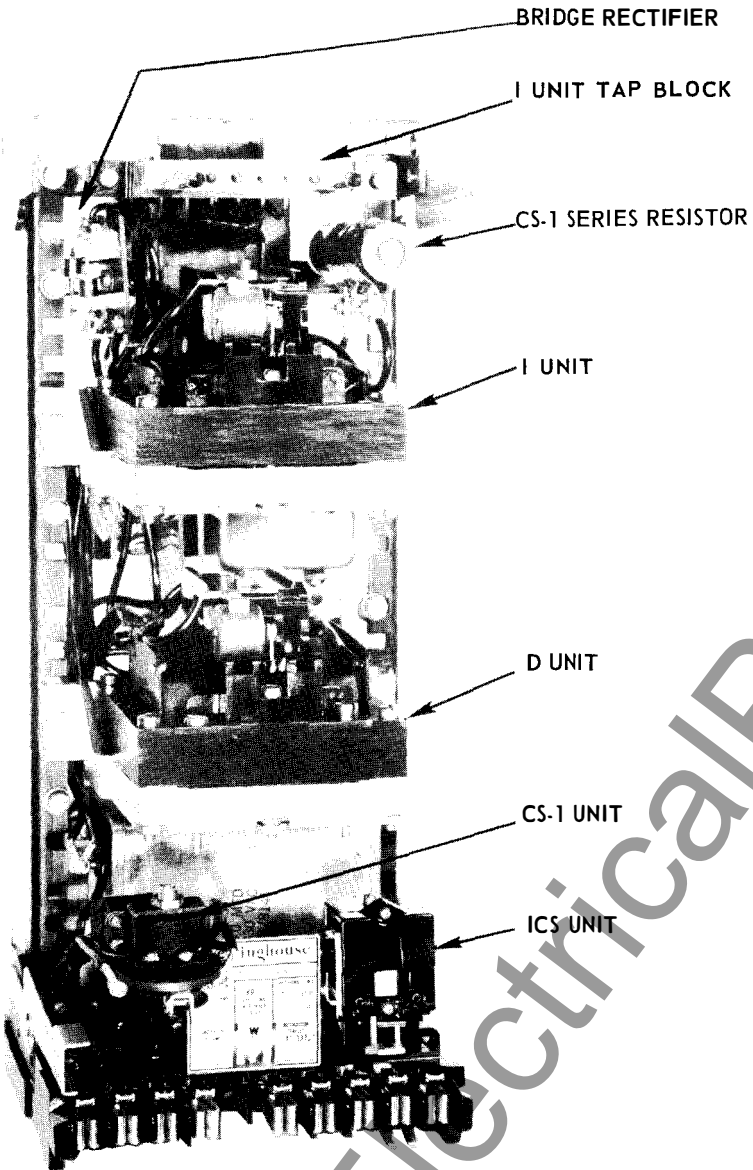

Fig. 1. Type KRV Relay Without Case (Front View)
The Type KRV relay consists of a directional unit (D), an auxiliary switch (CS-1), an instantaneous unit (I), an instantaneous overcurrent unit transformer, and an indicating contactor switch (ICS). The principle component parts of the relay and their location are shown in Figs. 1 and 2.
**Directional Unit (D)**